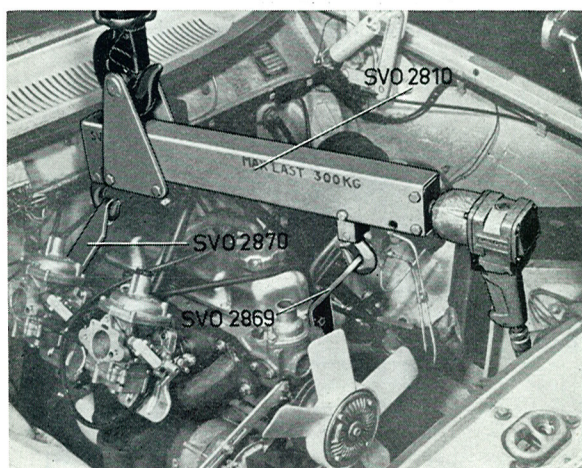
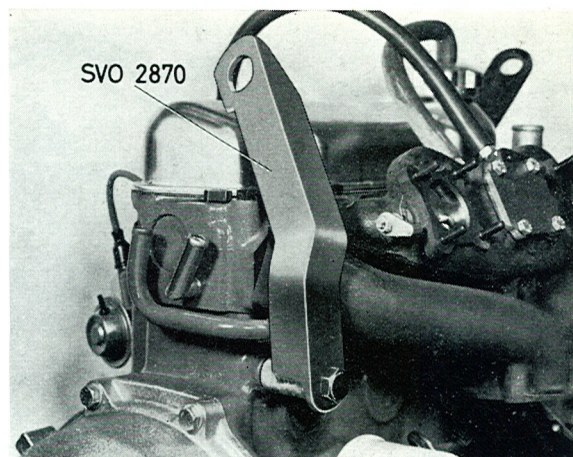
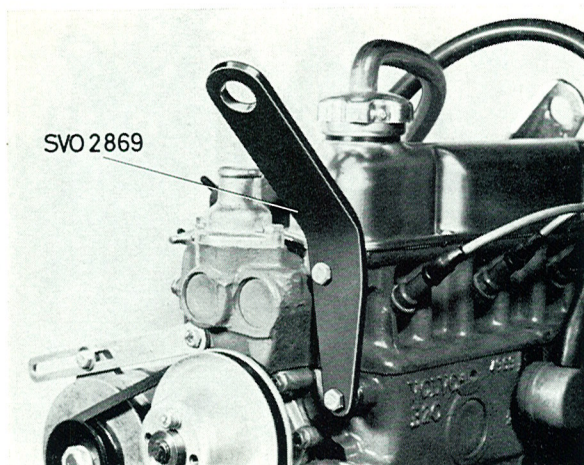

Fig. 2-13. Lifting out the engine
Fig. 2-14. Lifting lug on engine rear end
Fig. 2-15. Lifting lug on engine front end
20. Fit lifting lug SVO 2870 as shown in Fig. 2-14, and lifting lug SVO 2869 according to Fig. 2-15. The lifting lug is attached by 2 bolts 3/8" UNC-1"- resp. 1 1/4". Fit on lifting tool SVO 2810 according to Fig. 2-13 and lift out the engine.
1. Fit on the lifting lugs and beam according to Figs. 2-14, 2-15 and 2-13.
9. Adjust the clutch play according to Part 4 (41) "Adjusting the clutch pedal play".